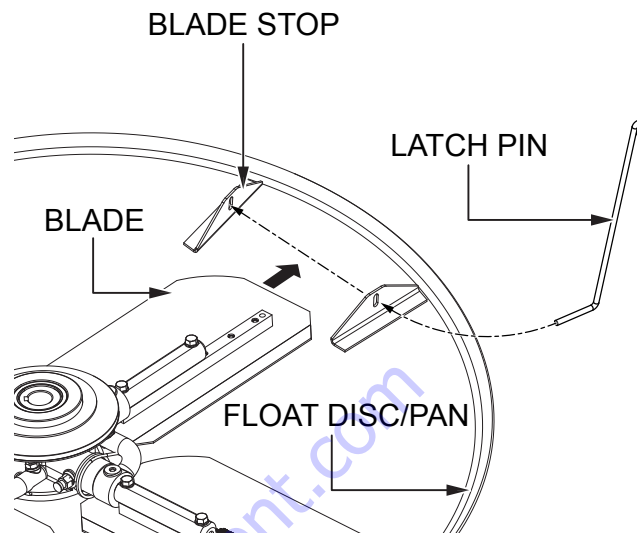

Figure 17. Float Pan Installation (Latch Pins)
1. Lift the trowel just enough to slide the float pan under the blades. Lower the trowel onto the pan with the blades between the blade stops (Figure 17).
3. Route the latch pins through the blade stop holes as shown in Figure 17.